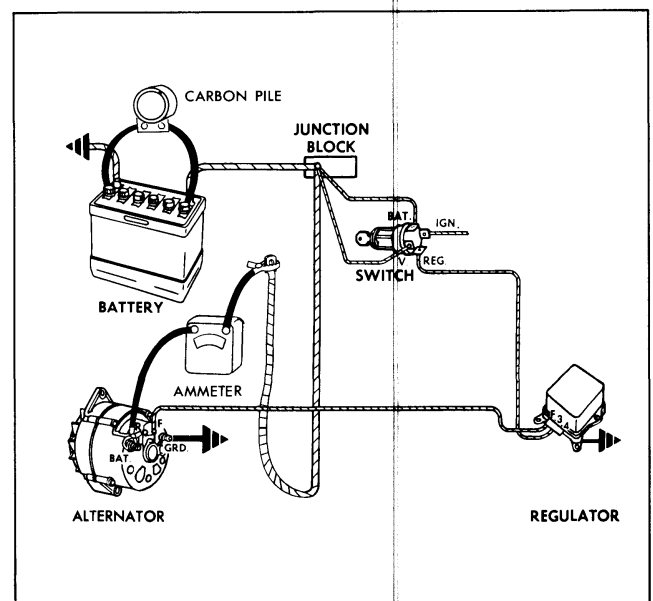

Fig. 11-26 Ammeter Measuring Output
2. Connect an ammeter in series in charging circuit at the alternator output terminal (BAT) as shown in Fig. 11-26.